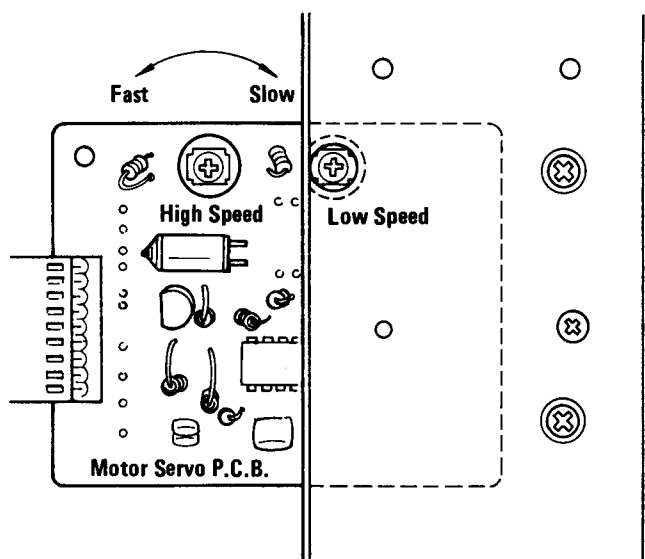

Fig. 2-10
3. Play the middle of the test tape and adjust the HIGH speed trimmer resistor until the frequency counter indicates a reading of 3000 Hz ( $\pm 5$  Hz). See Fig. 2-10. (CAUTION: Use an insulated screwdriver to prevent shorting.)